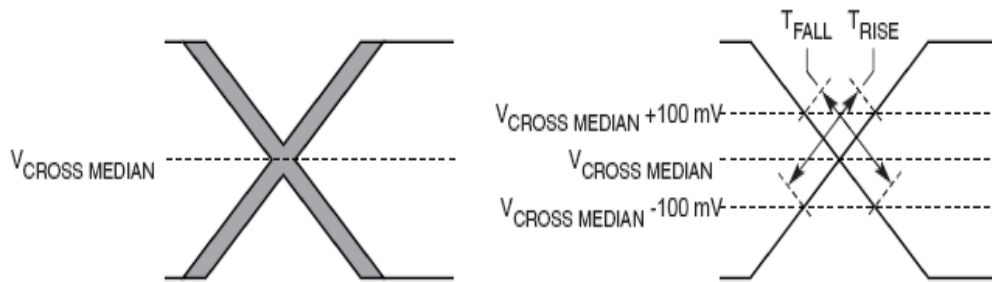

Figure 51. Single-Ended Measurement Points for Rise and Fall Time Matching
6. Matching applies to rising edge for SD $\overline{\text{REF_CLK}}$ and falling edge rate for $\overline{\text{SD}}_{\text{REF_CLK}}$. It is measured using a 200 mV window centered on the median cross point where SD $\overline{\text{REF_CLK}}$ rising meets $\overline{\text{SD}}_{\text{REF_CLK}}$ falling. The median cross point is used to calculate the voltage thresholds that the oscilloscope uses for the edge rate calculations. The rise edge rate of SD $\overline{\text{REF_CLK}}$ should be compared to the fall edge rate of $\overline{\text{SD}}_{\text{REF_CLK}}$, the maximum allowed difference should not exceed 20% of the slowest edge rate. See Figure 51.